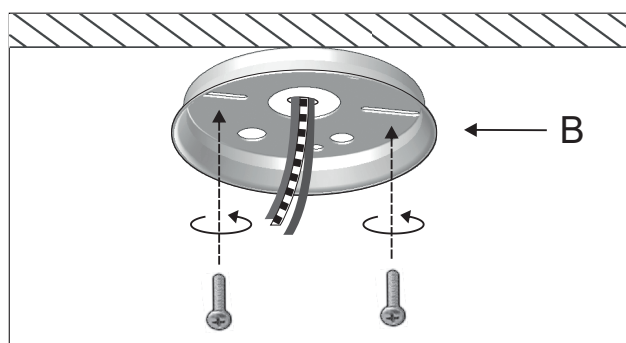

Figure 2
2 - Insert the main electrical cable through the subjecton (B). Affix the subjecton to the ceiling. Figure 2.